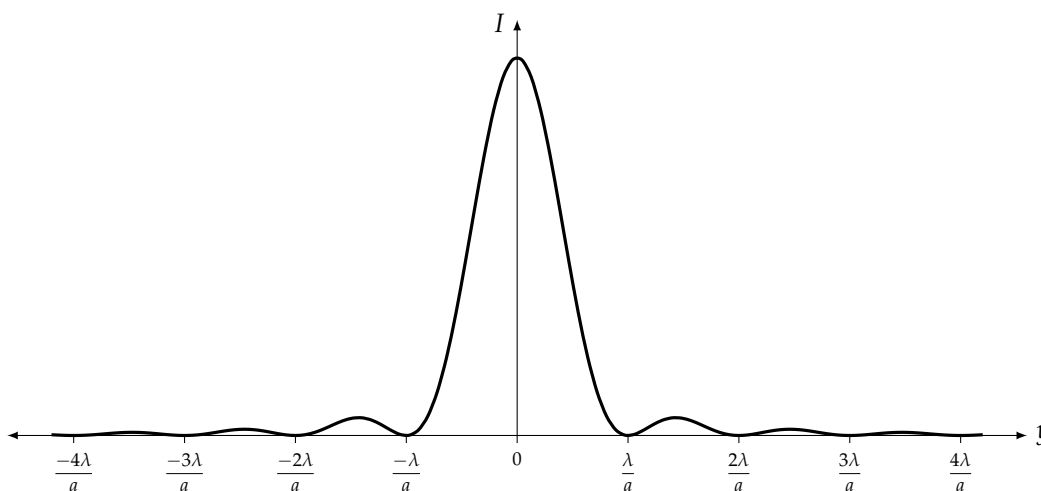

Figure 4: The diffraction pattern from a single slit of width a .
where the intensity minima occur at $\beta = m\pi$, with $m = \pm 1, \pm 2, \dots$. The single-slit diffraction pattern is shown in Fig. 4.
1. Aim the laser at the single slit portion of the slide. When the laser is aimed properly, an intensity pattern similar to that shown in Fig. 4 will be visible.